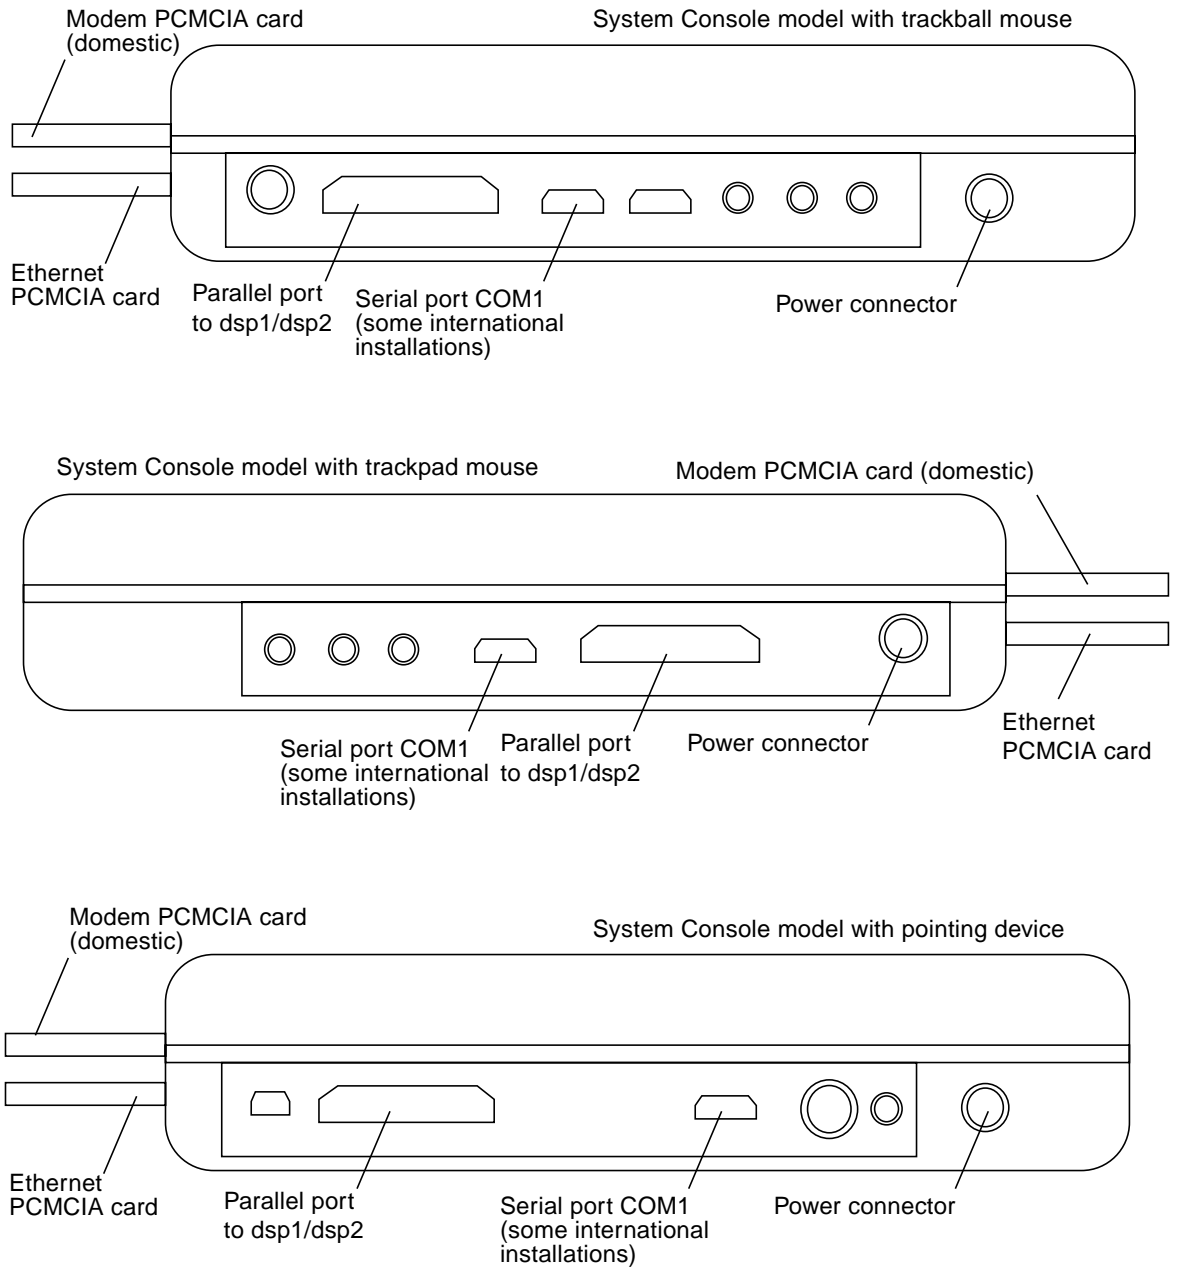

FIGURE 6-11 System Console Rear Connectors
- 1. There is one PCMCIA dual-connector slot on the side of the System Console, holding an Ethernet card and modem card. Squeeze the sides of the cards, then unplug the modem and Ethernet PCMCIA cards from this slot. See FIGURE 6-11.**
FIGURE 6-11 shows connectors at the rear of the System Console.
2. There is one PCMCIA dual-connector slot on the side of the System Console. This connector slot holds an Ethernet card and modem card. Plug the modem and Ethernet PCMCIA cards into this slot, as shown in FIGURE 6-11.
- 3. Connect the following (see FIGURE 6-11):**